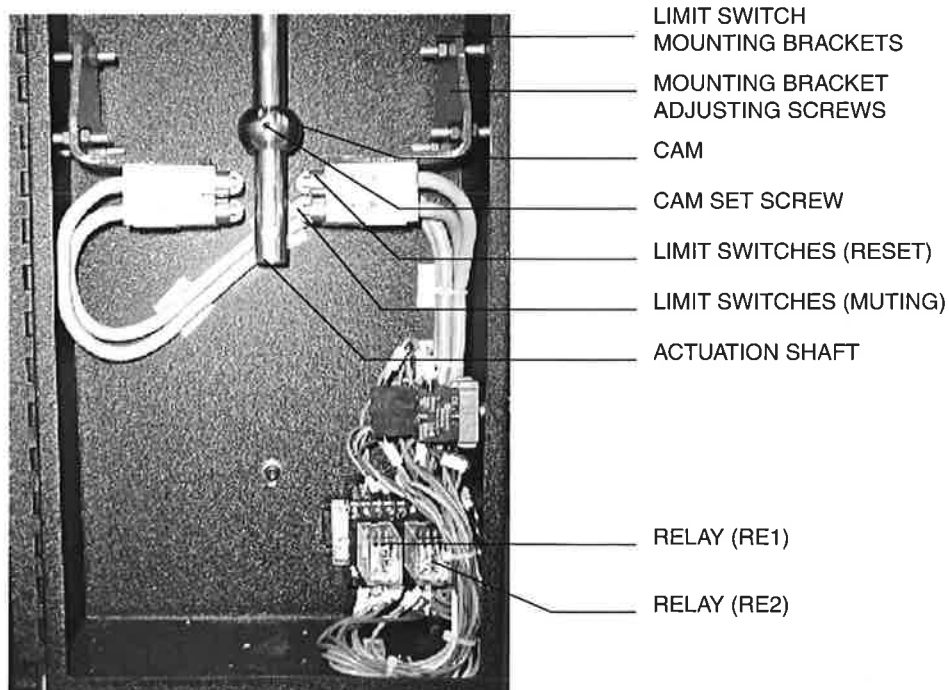

Figure 3.7-1: Inside the Light Curtain Muting Enclosure
- 6) Loosen the cam set screw inside the light curtain muting enclosure. Slide the cam down along the actuation shaft until the lower pair of limit switches is fully depressed - this is the “muting position”. The LED in each of the two relays, RE1 and RE2 (Refer to Figure 3.7-1), should illuminate simultaneously (within 0.3 seconds apart). If necessary, adjust the limit switch bracket adjusting screws until both LED's are simultaneously illuminated.